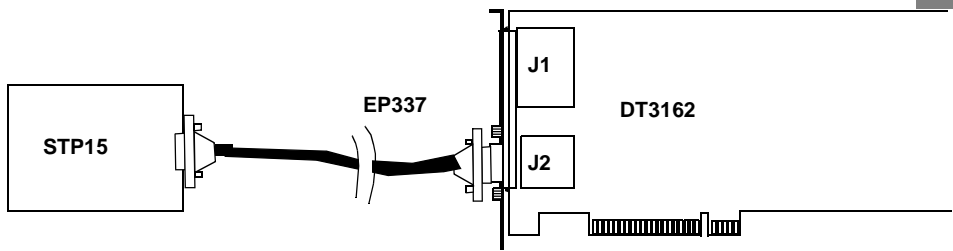

Figure 6: Connecting the STP15 to the DT3162 Board
2. Push one end of the EP337 cable into the J2 socket at the rear of the DT3162 board, then push the other end of the EP337 cable into the STP15 screw terminal panel. Figure 6 illustrates this step.